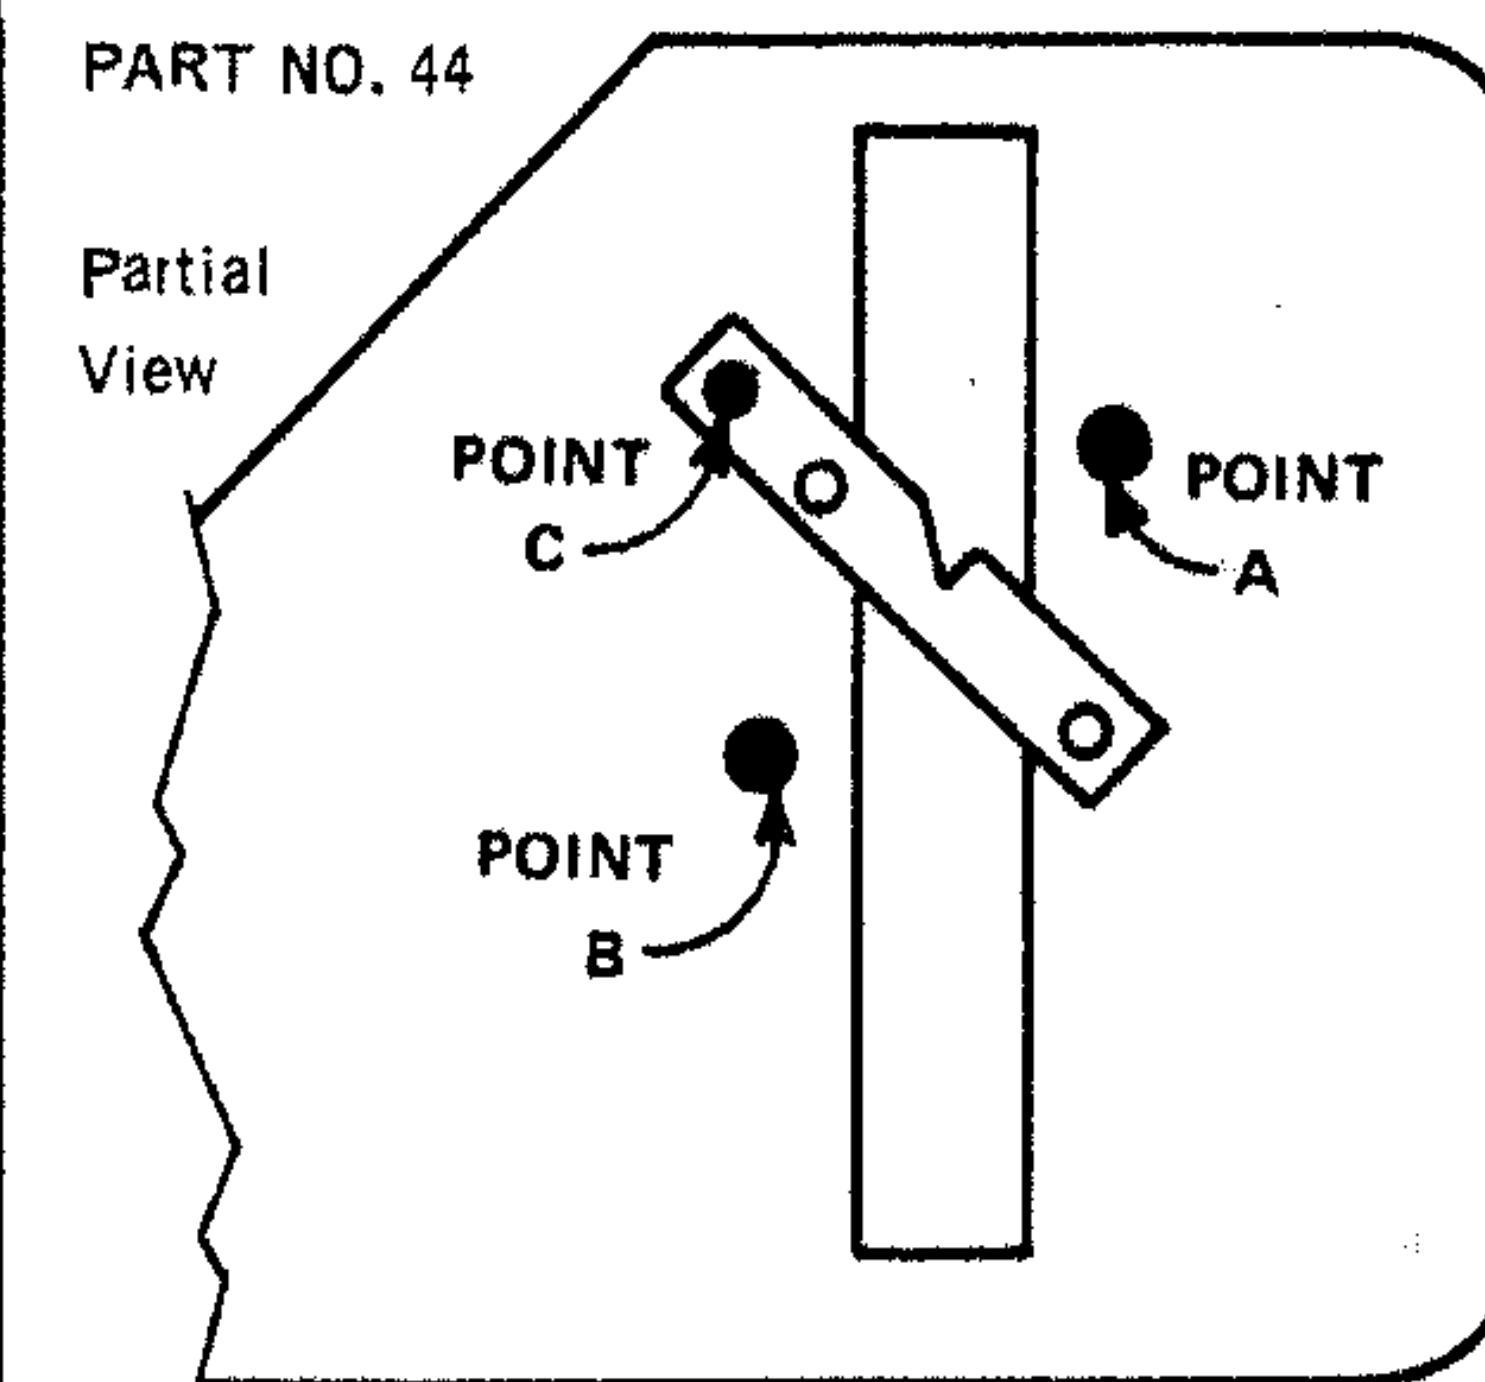

Fig. 5 Inside view of Antenna
7. There should be 2 wires already soldered to the back of the S-Band diode holders (Fig. 5 points A & B). If not please attach the 4" wires by soldering to these points. Check the diodes at this time to make sure they are secure in their individual holders and will not drop out if the sub-assembly is turned upside down. (Fig. 5 is on page 17.)
- 40. Check Fig. 5, page 17 and become familiar with the location of the points A, B, and C. Note the proper side of the unit is determined by the shorting bar across the slot.
- 41. Take a 4" lead from Point A in Fig. 5, page 17, and solder to clip lead on radar diode #32. This means the diode clip will now have two leads soldered to it at this point.
- 43. Take the 4" insulated wire from Point B on Fig. 5, page 17, to hole 78 on the printed circuit board. Solder.
- 44. Take the lead from hole 73 of the printed circuit board and solder to Point C of Fig. 5, page 17.